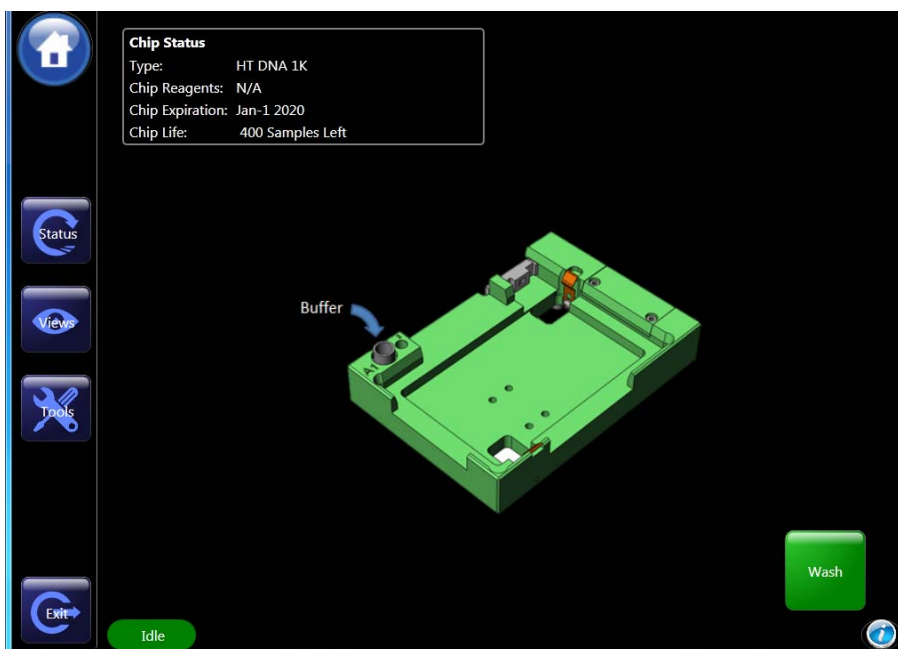

Figure 12. *Wash* screen.
- 6 Touch the *Wash* button in the upper right corner in the *Home* Screen. The *Wash* screen opens (Figure 12).